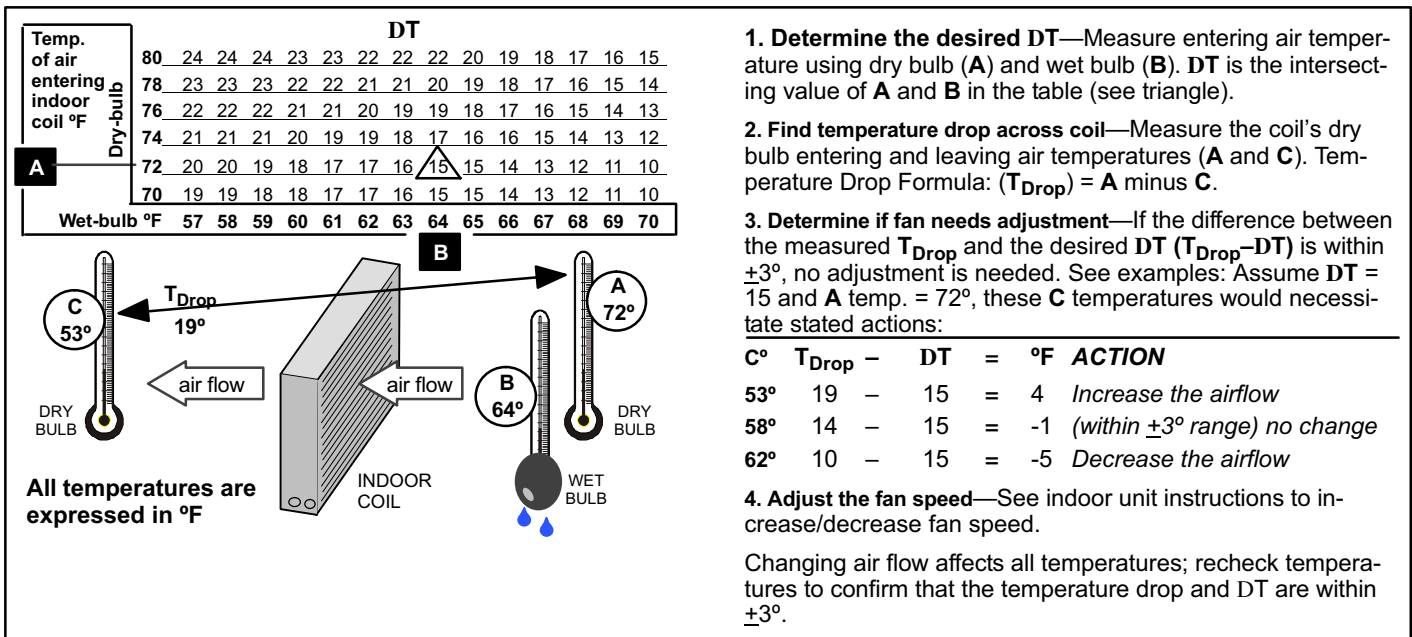

Figure 22. Checking Airflow over Indoor Coil Using Delta-T Formula
Check airflow using the Delta-T (DT) process using figure 22.